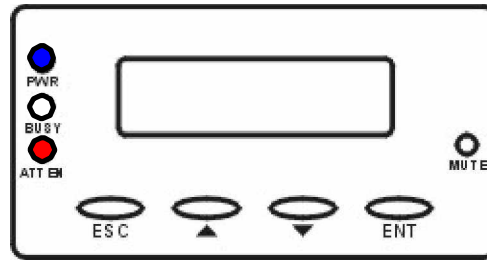

Figure 3-1: LCD Panel
The LCD panel shown in *Figure 3-1* consists of five (5) buttons, three (3) LEDs, and a 16x2-character LCD screen that indicates subsystem status. Press the **ENT** button for two (2) seconds on the initial screen to enter the main menu. Press the **ESC** button to clear the current event.